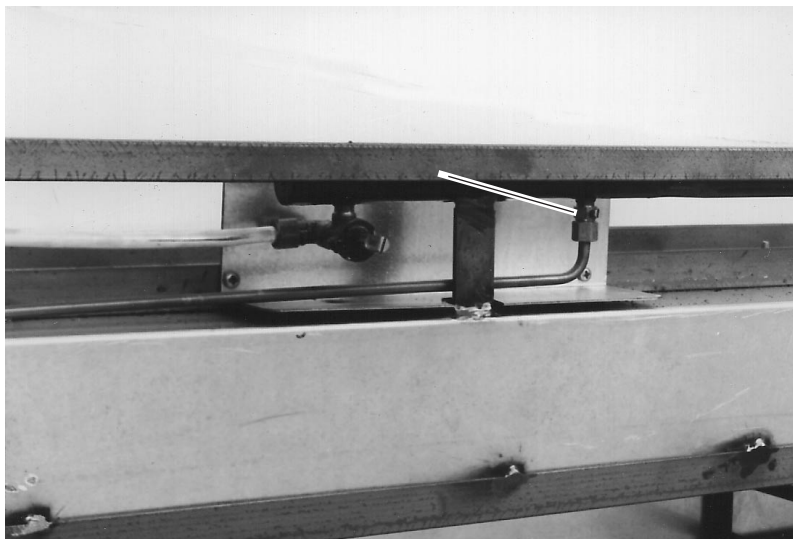

Fig. 7
3. Disconnect the pilot valve from the manifold pipe. (Fig. 7)